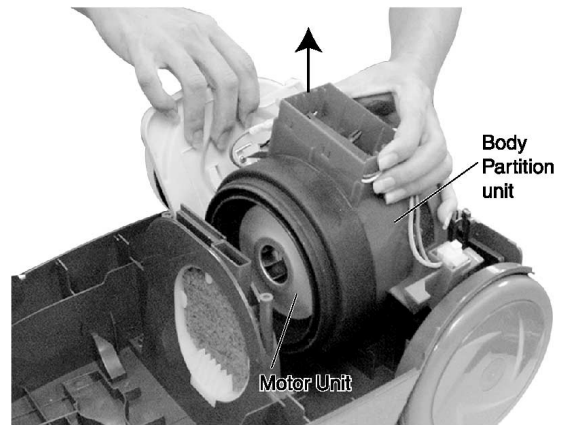

Fig.12
11. Remove the Body partition unit and motor unit together. (Fig.12)